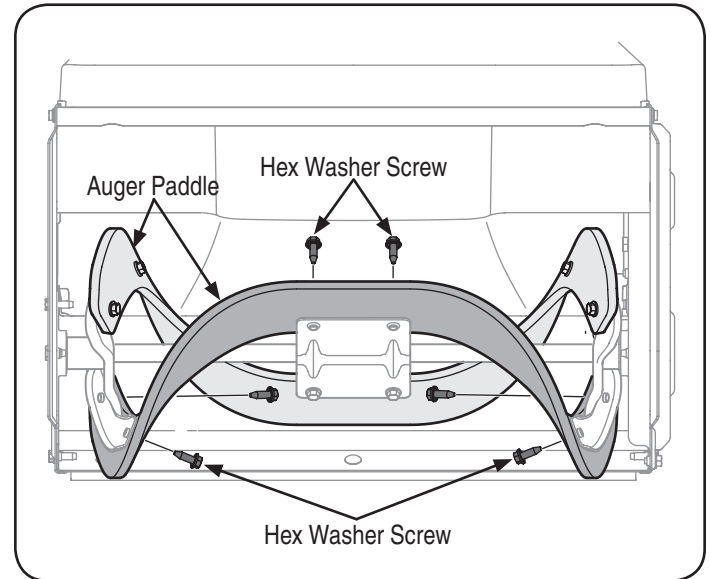

Figure 22
3. Remove the existing rubber paddles by unthreading the hex washer screws which secure them to the auger. See Figure 22.